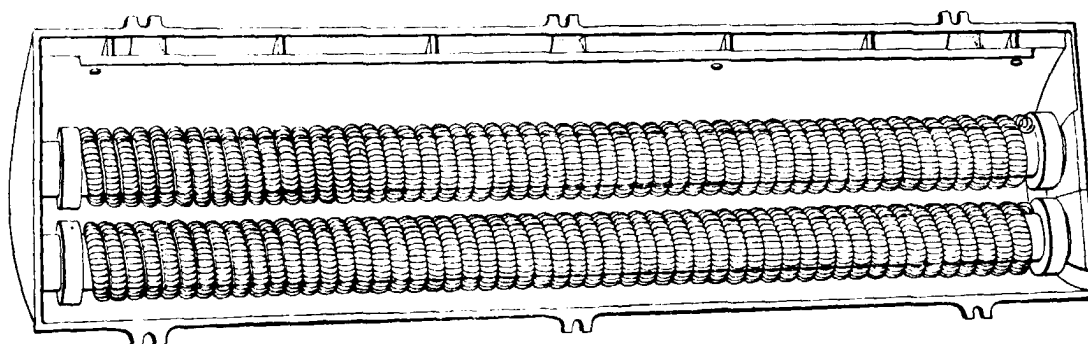

FIG. 41.
38. Fig. 41 shows the type 143L heater with the front plate removed to show the two coils in place. The